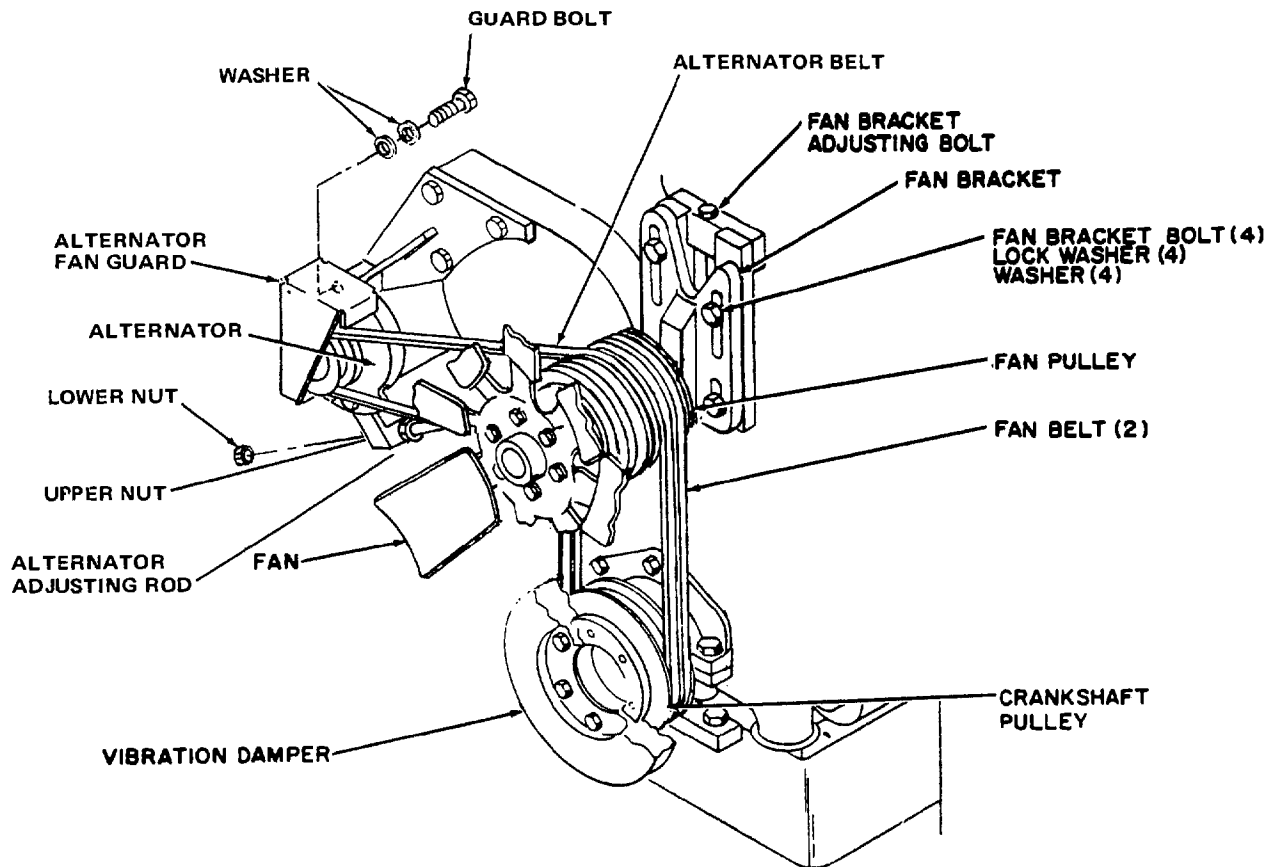

Figure 4-15. Alternator and Fan Belts, Removal and Installation
a. Removal. To remove alternator and fan belts, refer to figure 4-15 and proceed as follows:
(1) Remove fan guards, refer to paragraph 4-106.
(2) Remove alternator guard bolts and washers (figure 4-15). Loosen alternator bolt and pivot alternator fan guard away from alternator.
(3) Loosen adjusting rod bolt. Back off lower adjusting rod nut until alternator belt can be removed from alternator.
(4) Loosen fan bracket bolts. Rotate fan bracket adjusting bolt and lower fan bracket until it bottoms and then remove adjusting bolt.
- (4) Replace defective parts.
c. Installation. To install alternator and belts, refer to figure 4-15, and proceed as follows:
- (1) Position fan belts on crankshaft pulley.